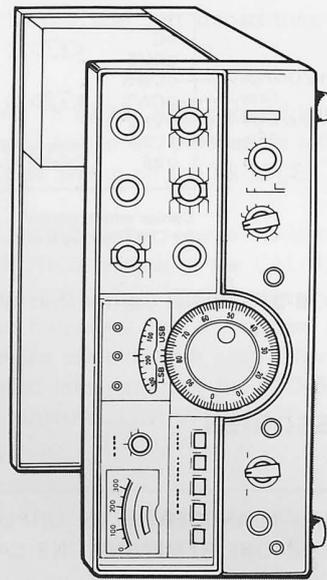

Fig. 6-2 Service Position for the TS-520SE
■ SERVICE POSITION (See Figure 6-2)